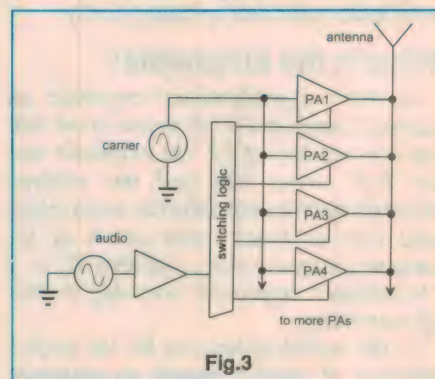

Fig.3
These days, some AM radio stations are fitted with the Harris digital transmitting system. The block diagram of the system is shown in Fig.3, where each RF power amplifier (PA) is switched by digital logic controlled by the modulating signal. If the modulating signal calls for an increase in amplitude of the carrier, the digital logic will switch one or more PAs to increase the output power of the carrier going to the antenna. It's true amplitude modulation, achieved by switching some 40 or more PA's, giving an efficiency of something around 85%.
Fig.3: From this side, the flat 'spiderweb' tuning coil can be seen under the paxolin panel. The battery model is similar but without the power supply in the boxes at the rear.